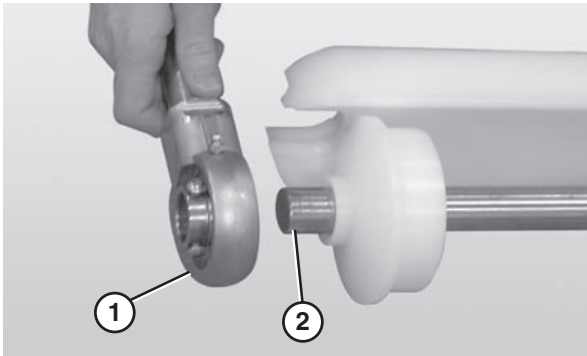

Figure 76
- Slide the bearing shaft assembly (**Figure 76, item 1**) off the idler shaft (**Figure 76, item 2**).